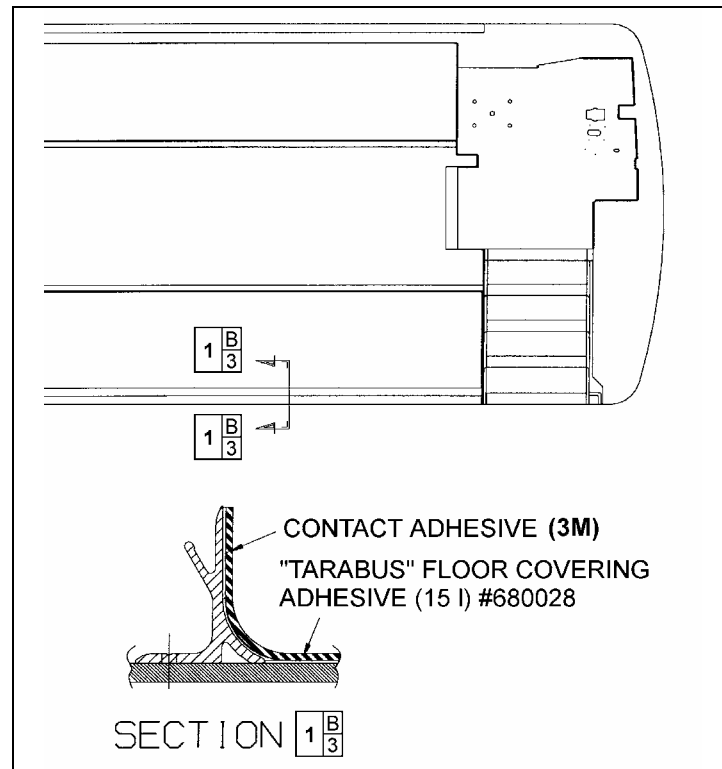

FIGURE 25: TARABUS FLOOR COVERING ADHESIVE APPLICATION
6. Apply floor covering adhesive (680028) onto plywood using a serrated spreader with 1/8-inch serration. If required, apply contact adhesive (3M) (684654 or 684655) onto aluminum molding and also onto section of floor covering, which will be in contact with molding (refer to figure 25).